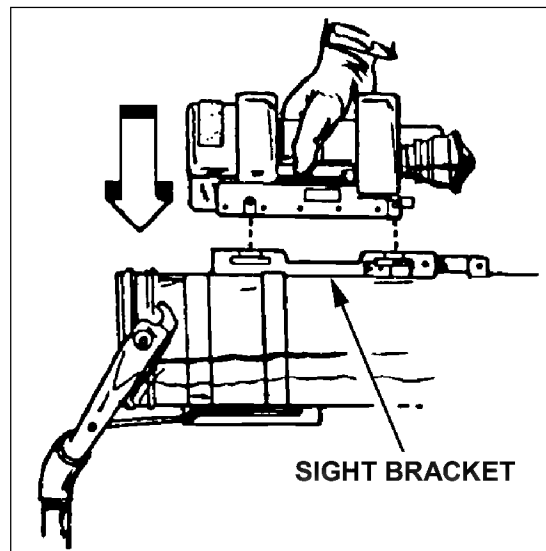
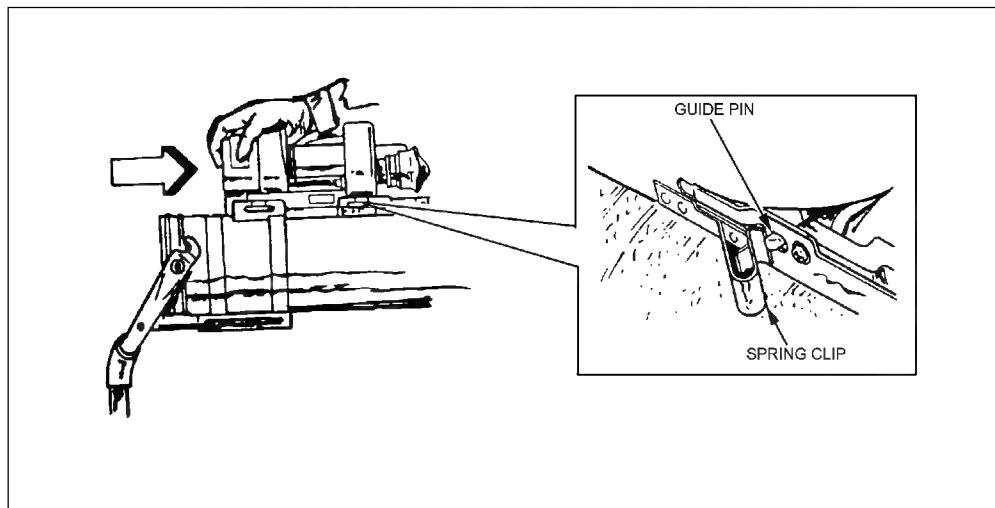

Figure 2-4. Aligning the daysight guide pins.
Figure 2-5. Seating the daysight on the round.
e. **Mating the Sight to the Round.** Place the sight guide pins in the slots of the sight bracket guide rails (Figure 2-4, page 2-4). This example uses the daysight, but you will use the same procedure for the nightsight. Use both hands and slide the sight firmly to the rear until the spring clip locks the guide pin in place (Figure 2-5, page 2-4). If the sight does not mate, notify your squad or section leader. Assume the firing position and put the round on your shoulder.